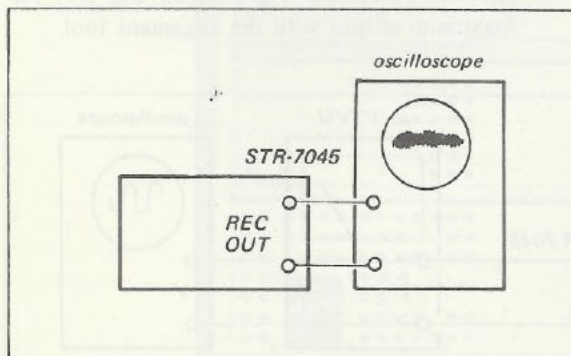

Fig. 3-4. Discriminator alignment test setup
2. Connect the input cable of the oscilloscope to REC OUT jack (J504) as shown in Fig. 3-4.